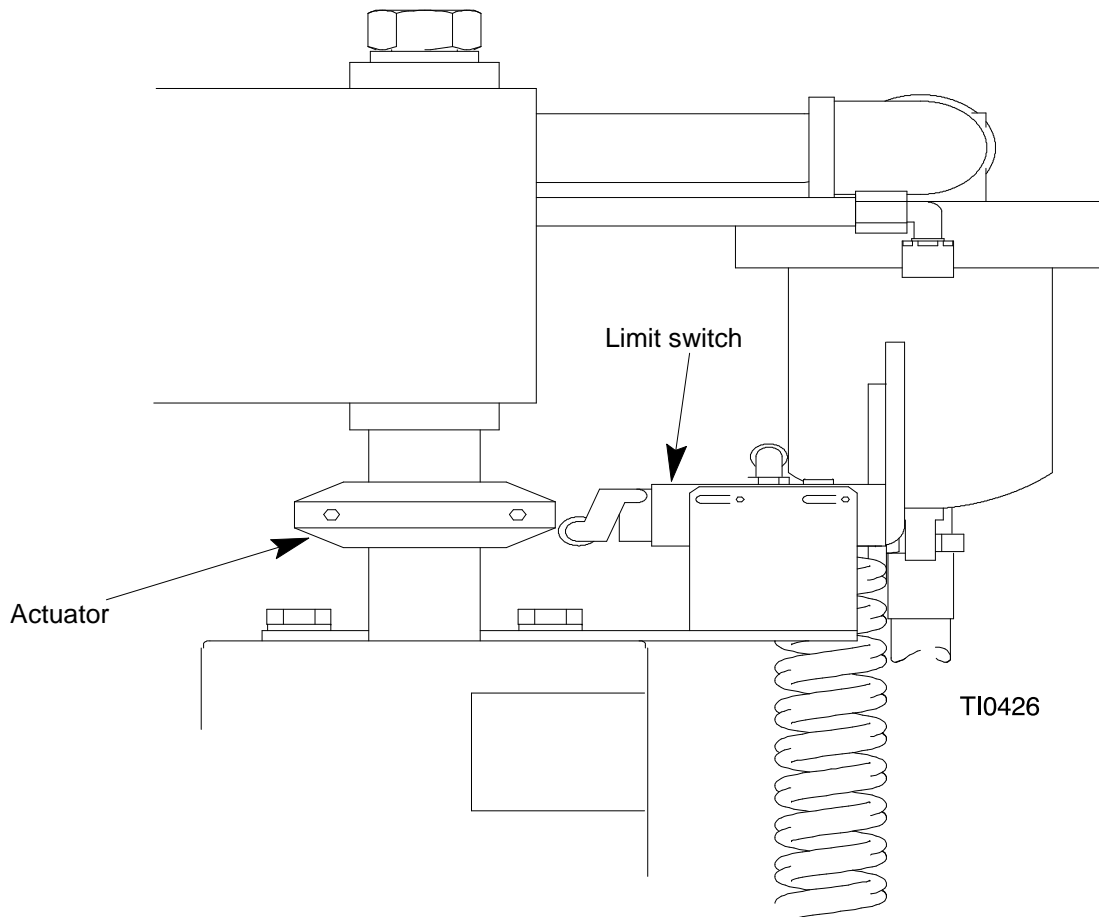

Fig. 7
- Turn the knob clockwise to increase air pressure or counterclockwise to decrease air pressure (see Fig.7).
21. Set the RAM POSITION switch to RAISE and push the RAM UP pushbutton. Verify that the follower plate (5) elevates at the desired speed. If not, do the following:
- Adjust the RAM-UP REGULATOR. Turn the knob clockwise to increase the amount of air pressure. Check the air gauge to verify that air pressure was increased. (See Fig. 7).
23. Adjust the RAM-DOWN REGULATOR to 50 psi (0.34 MPa, 3.4 bar) as follows (see Fig. 7):
2. Fully lower the ram by setting the RAM POSITION switch (A) to LOWER. Leave switch in LOWER position.
3. Open the door on the pneumatic control box (E).
4. Adjust the air pressure to 0 PSI for the RAM DOWN regulator. Refer to the gauge on the Ram Down Regulator (Fig. 7) and R3 Regulator to verify the ram has been depressurized.
5. Slowly open the drain cock located on the bottom of the air cylinders (D).
6. After the air pressure has been relieved, remove the RAM DOWN air line running from the top of the pneumatic control box to the ram cross bar (G).
7. Close the main air inlet on header (B).